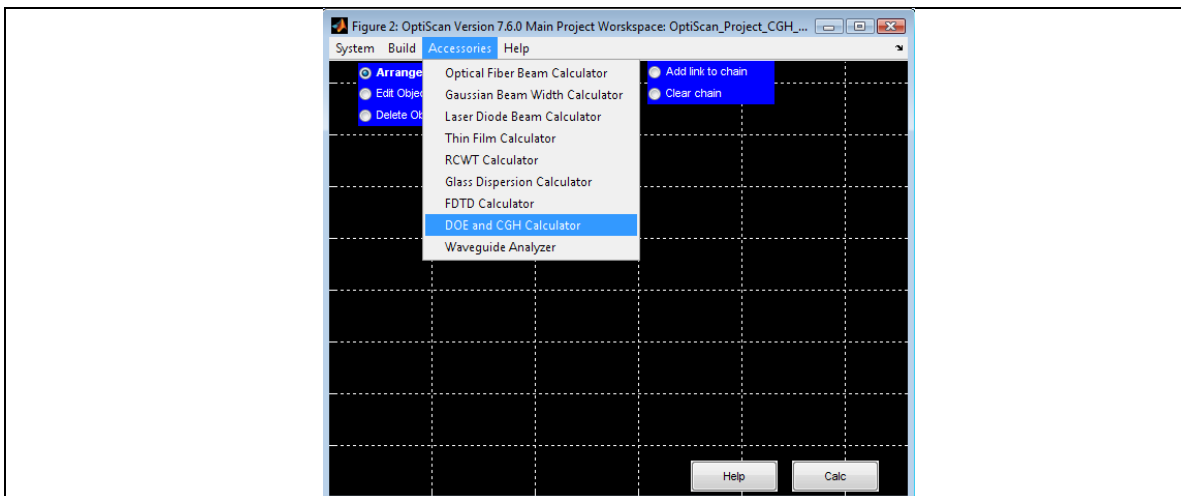

Figure 5. Opening the DOE and CGH Calculator.
- 12.) Open “DOE and CGH Calculator” under the “Accessories” menu item, as shown in Figure 5.